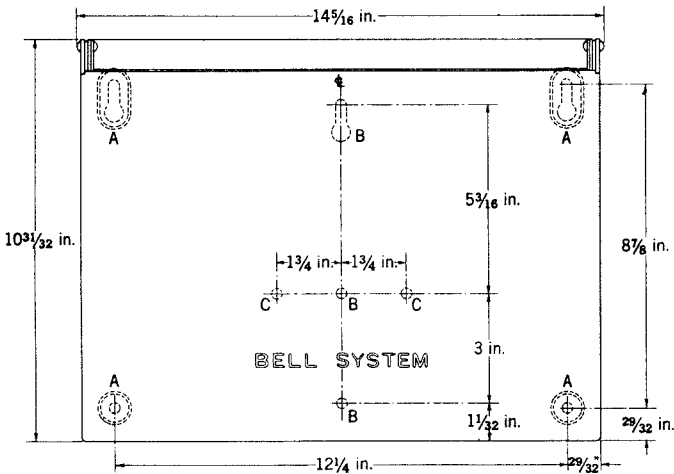

Fig. 2 – 159A Backboard
- (a) Mount the 392-type subscriber set with a 159A backboard (Fig. 2, Table B). Two P-160406 12-24 by 9/16-inch RH machine screws are furnished with the backboard.
Note: If C knockout holes are not provided, drill at location shown in Fig. 2 with 9/32-inch drill. Fasteners through knockout holes should be brought up snug without forcing to avoid distorting backboard and throwing tapped mounting holes for the 392-type subscriber set out of alignment.